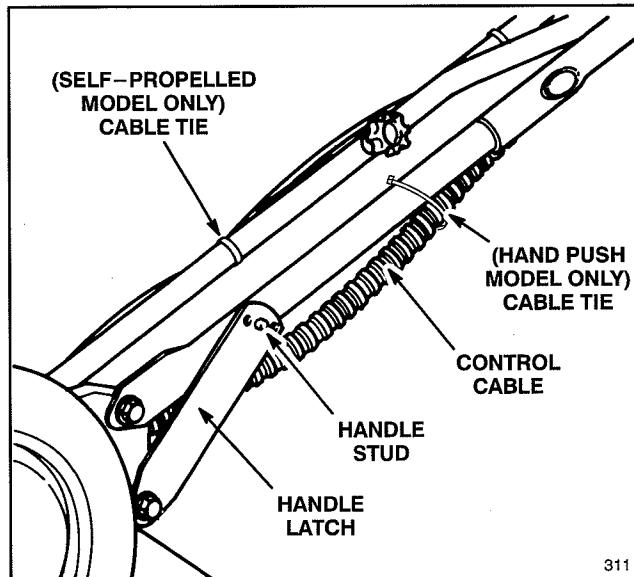

Figure 2
## INSTALL HANDLE (Fig. 2)
2. The left handle knob is shipped from the factory on the outside of the handle (Fig. 1). Remove the left knob and bolt. Reinstall knob and bolt on inside of handle (Fig. 2). Both handle knobs should be positioned on the inside of the handles. Tighten handle knobs.
3. Move handle latches slightly outward so they will not be in the way when pivoting the handle backward into the operating position (Fig. 2).
4. Pivot handle backward. Move handle latches inward while snapping handle stud into center hole of handle latch (Fig. 2). If a handle latch does not fit tightly against the handle tube, remove latch from handle stud, bend the latch inward, and reattach to handle stud. Repeat as necessary to ensure a tight fit between latch and handle. Make sure handle knobs are securely tightened.
**Note:** If handle height is not satisfactory, adjust by placing handle stud (Fig. 2) into a different hole. Tighten handle knobs.
5. Ensure control cables (Fig. 2) are to the rear and inside of handles. Secure cables to handle with cable ties (Fig. 2).